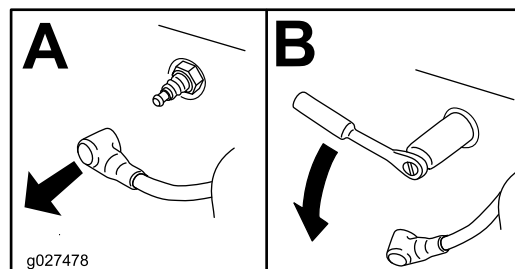

Figure 37
3. Remove the spark plug (Figure 37).